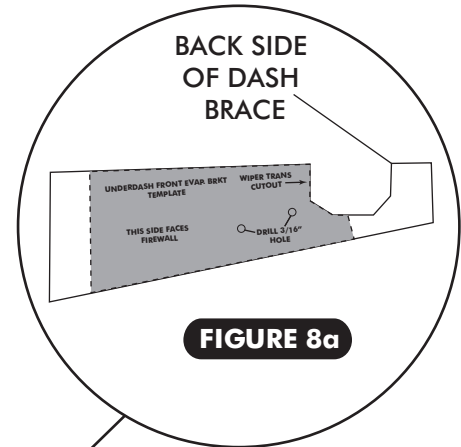

FIGURE 8a
- USING TEMPLATE PROVIDED ON PAGE 23, DRILL (2) 3/16 HOLES IN DASH BRACE AS SHOWN BELOW IN FIGURE 8a.